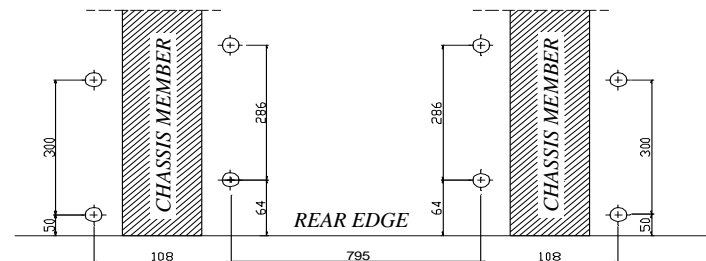

Fig. 1. Underneath view after bumper disassembly.
2. Underneath the car mark points according to figure 1. Next drill holes using bit  $\varnothing 11$  mm, make very carefully.
3. Inside the trunk put suitable upper fish-plates (pos.8).
4. Underneath the car put side brackets (pos. 4 and 5) and through holes (pos. A) and fish-plates (pos. 8) fix using bolts M10x35mm (pos. 11).
5. Underneath the car put fish-plates (pos. 6 and 7), next through holes (pos. B) and fish-plates (pos. 8) fix using bolts M10x35mm (pos. 11) .
6. Through holes (pos. C) fix main bar of the towbar (pos. 1) with side brackets using bolts M12x35mm (pos. 10).
9. Fix tow-ball (pos. 2) and socket plate (pos. 3) by bolts M12x75mm (pos. 7) from accessories.